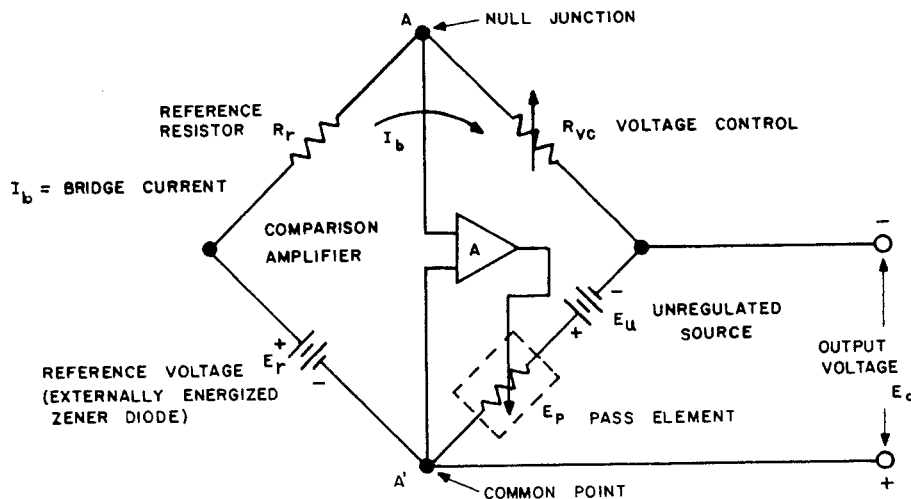

FIG. 3-4 KEPCO POWER SUPPLY AND COMPARISON BRIDGE CIRCUIT.
3-8 GENERAL. A few general remarks may be in order to familiarize the user of this equipment with the terminology and basic equations pertaining to remote programming of the Kepco PAT Power Supplies. Electrically, the power supply consists of the unregulated d-c source (E_U), the pass element (E_P), the d-c error amplifier (A), and a comparison circuit which resembles a 4-arm electrical bridge. (Refer to FIG. 3-4.) The elements of the bridge are arranged to produce a virtual zero at the amplifier input when the bridge circuit is at balance ($V_{AA'} = 0$). Any tendency for the output voltage to change in relation to the reference voltage (E_r) creates an error signal which, by means of negative feedback and the amplifier, tends to correct the output voltage towards restoration of bridge balance.